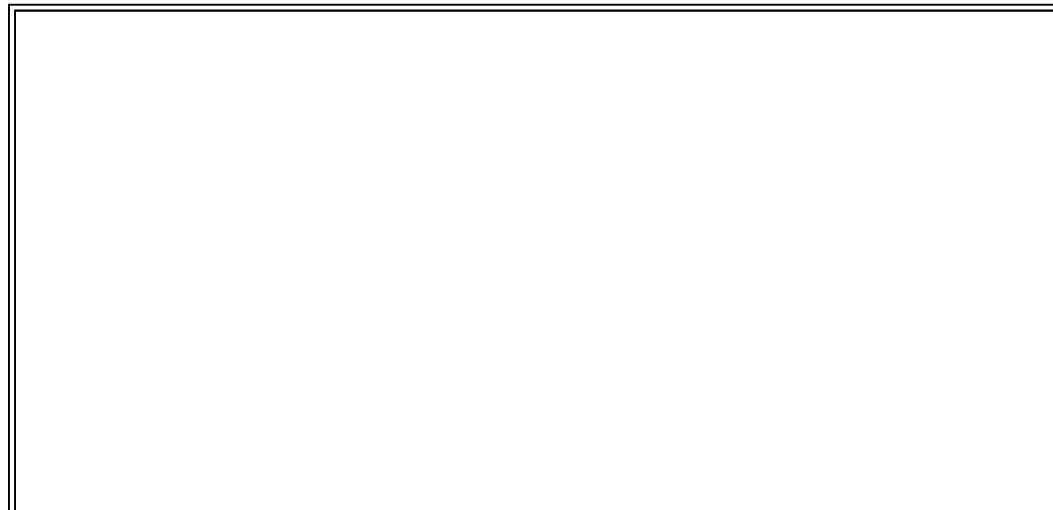

Figure 6. Turbocharger Inlet Elbow.
15. Remove V-band clamp (Figure 6, Item 2) from turbocharger inlet elbow (Figure 6, Item 1).